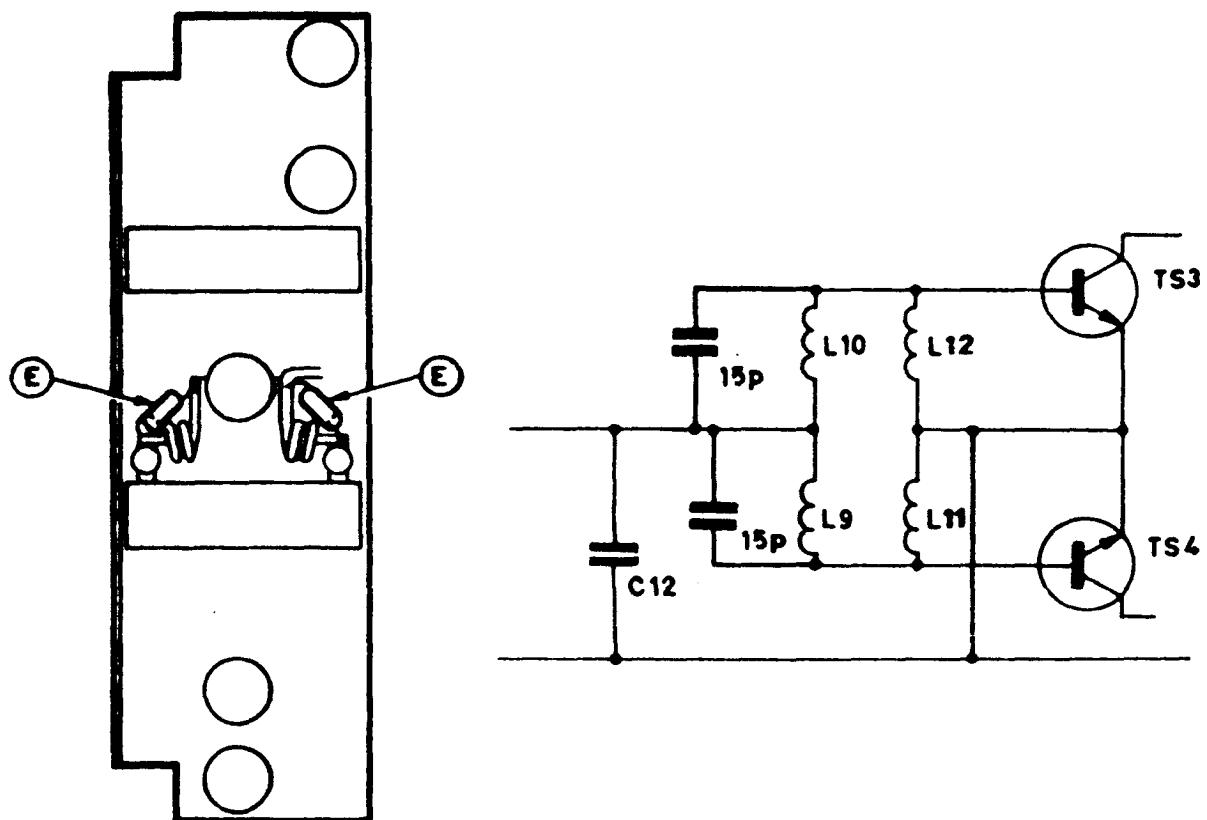

Figure 3-16 U3 Card Additional Capacitor Locations and Modified Circuit
(1) Solder two 15 pF ceramic tubular capacitors (item E) to PA unit U3 as shown in figure 3-16.